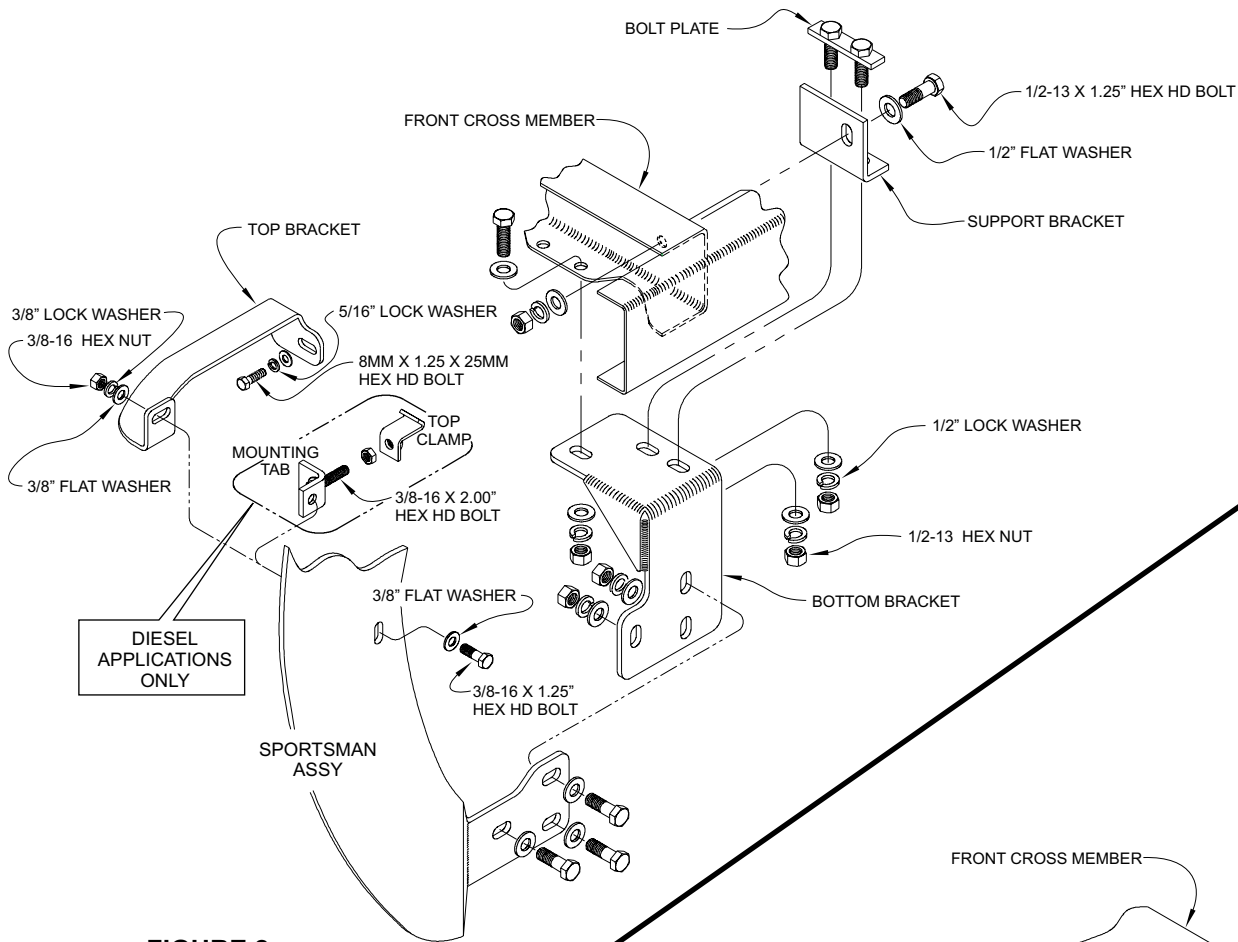

FIGURE 2
- STEP 3. Install driver side bottom bracket onto frame cross member using (1) bolt plate, (1) 1/2-13 x 1.25" hex bolt, (4) 1/2" flat washers, (3) 1/2" lock washers, and (3) 1/2-13 hex nuts. **See Figure 2 or 3.** Repeat for passenger side. Leave loose.
1997 and older models without slots: Use the support brackets in place of the slot. **(Figure 2).** Bolt the support bracket to the bottom bracket and frame using (1) bolt plate, (1) 1/2-13 x 1.25" bolt, (4) 1/2" flat washers, (3) 1/2" lock washers, and (3) 1/2-13 hex nuts. Install (1) 1/2-13 x 1.25" hex bolt, (2) 1/2" flat washers, (1) 1/2" lock washer, and (1) 1/2-13 hex nut through single slot in support bracket. Leave loose.